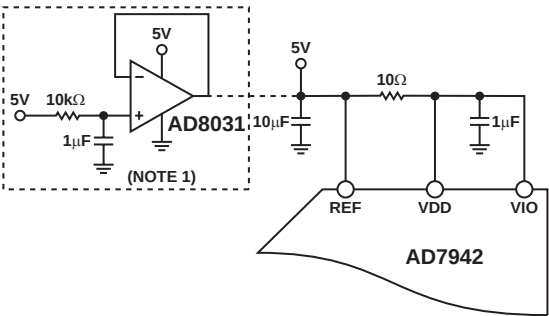

Figure 28. Example of Application Circuit
For simplified applications, the AD7942, with its low operating current, can be supplied directly using the reference circuit, as shown in Figure 28. The reference line can be driven by either:
- A reference buffer, such as the AD8031, that can also filter the system power supply, as shown in Figure 28.